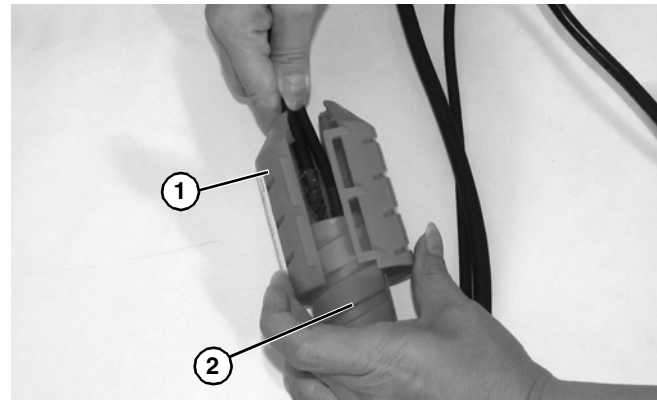

Figure 30
2. Remove outer cord cover (Figure 30, item 1) from inner cord cover (Figure 30, item 2).